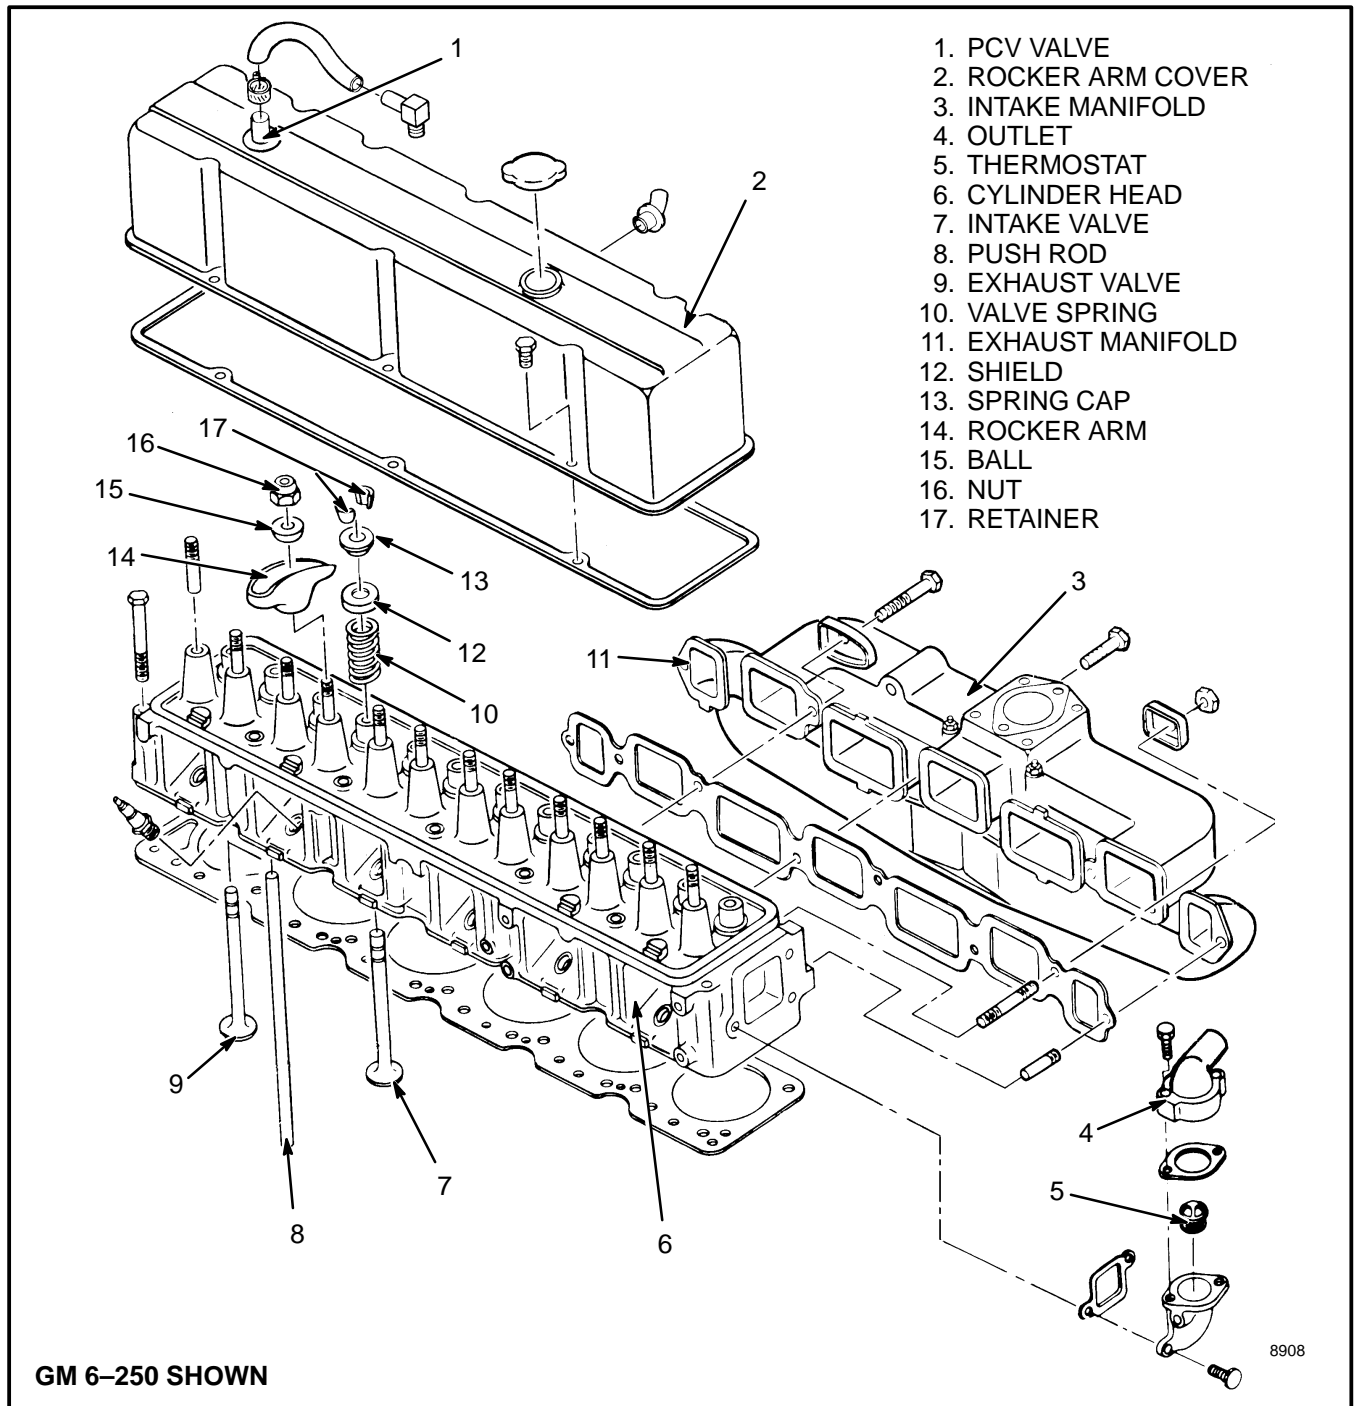

FIGURE 2. CYLINDER HEAD
1. Use a compressor tool to compress the valve springs and remove the retainers. See FIGURE 2. and
Cylinder Head, Assembly (See FIGURE 2.)